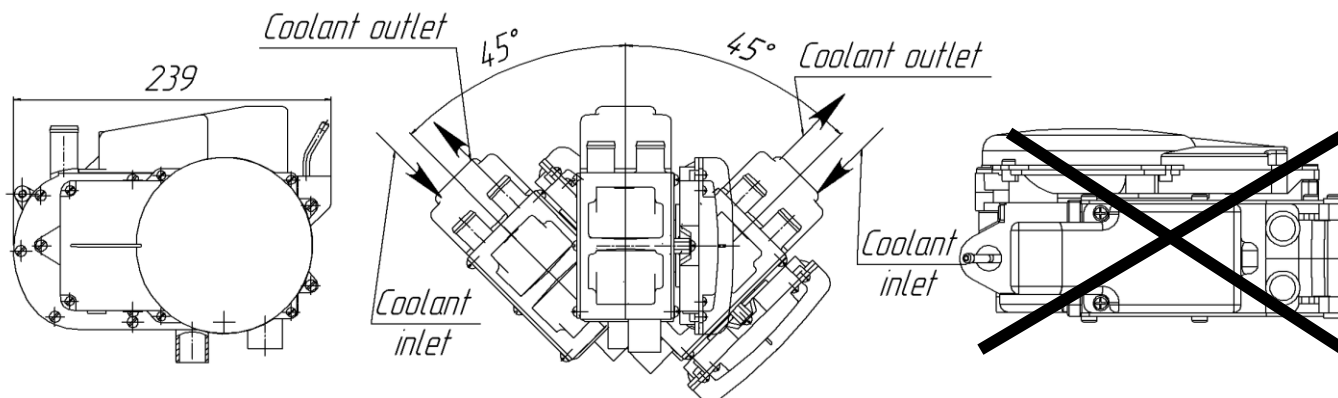

Figure 7.2 – Heater acceptable operating positions
The heater shall be installed with account of its operating positions (figure 7.2, items 7.1.1 and 7.1.2).
Attention! In case the heater is tilted to be installed on the vehicle, fluid hoses shall be connected to the heater adapters as shown in figure 7.2.